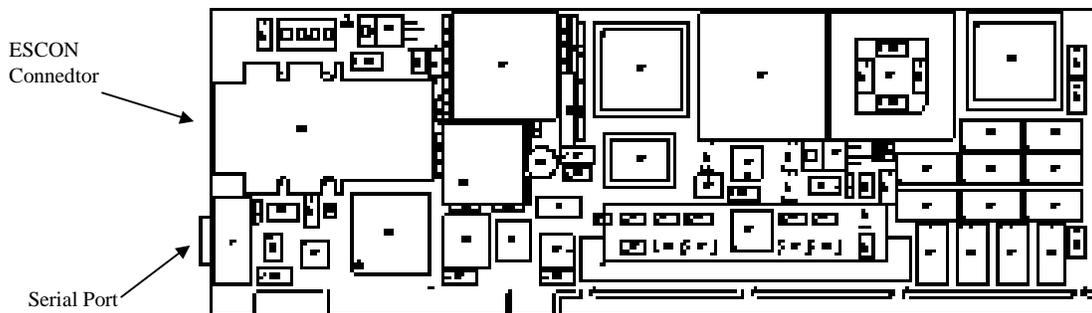

Figure 2-1. Bus-Tech's PBSA Adapter
The *PCI ESCON Adapter* is a full size PCI adapter measuring 12.283 X 4.2 inches, Figure 2-1. The adapter hardware comes pre-configured and is ready to be installed. There are no jumpers or switches that need setting prior to installation.
6. As shown in Figure 2-1, the adapter has two connectors at the card edge; a standard ESCON connector(top) and a serial port (bottom). Plug the IBM-compatible ESCON channel cable directly into the ESCON connector. Ensure the cable end is fully inserted into the socket. You should hear a click as the connector locks into place. The serial port is for diagnostics and is not used during normal operation.